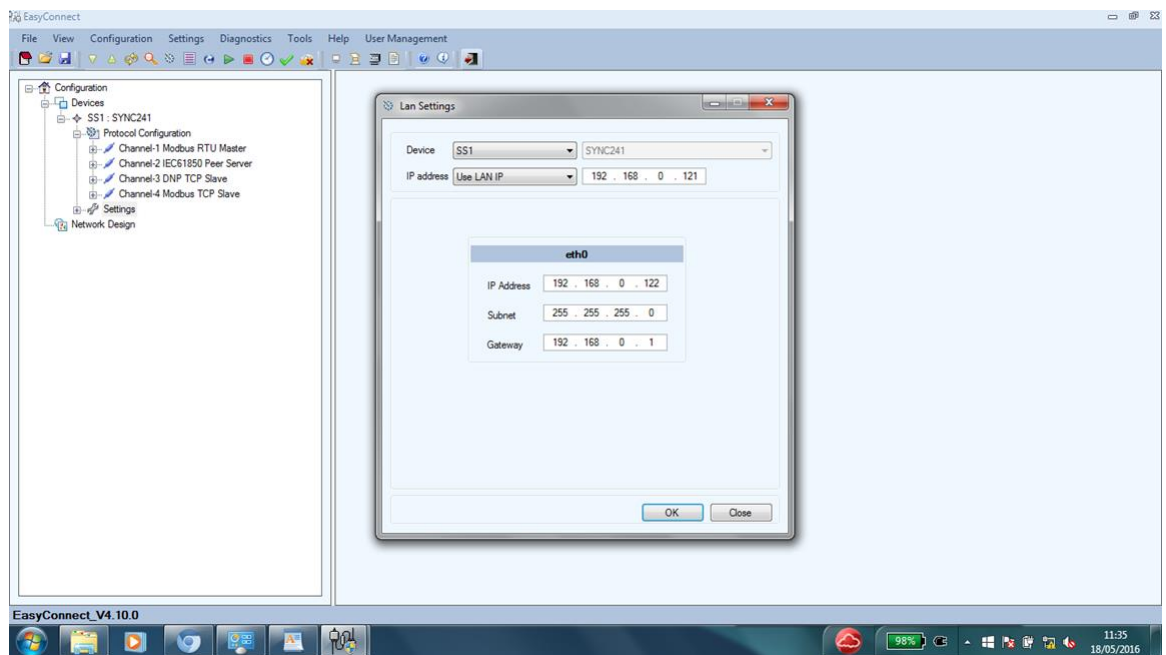

Figure E-16: LAN settings
6. The Lan Settings dialog box displays the Device name and current IP Address as shown in Figure E-16. Type the new IP address below (for example, 192.168.0.122), but leave the Subnet and Gateway on the default values and click **OK**.